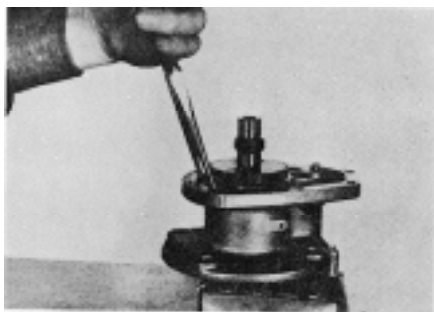

Fig. 5-57, F544. Securing snap ring in groove
3. Lubricate ST-419 Assembly Tool and install tool over main shaft. Place snap ring between drive gear and bearing. Press main shaft assembly into front cover and through seals. Secure snap ring in cover groove. Fig. 5-57.